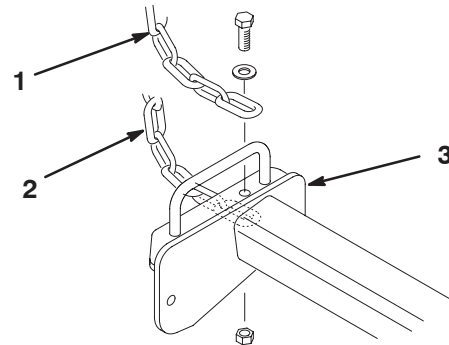

Figure 9
3. Secure a tipper chain to the top of each 27" cutting unit carrier frame and to the bottom of each 32" cutting unit carrier frame with a capscrew, washer, and locknut (Fig. 9).